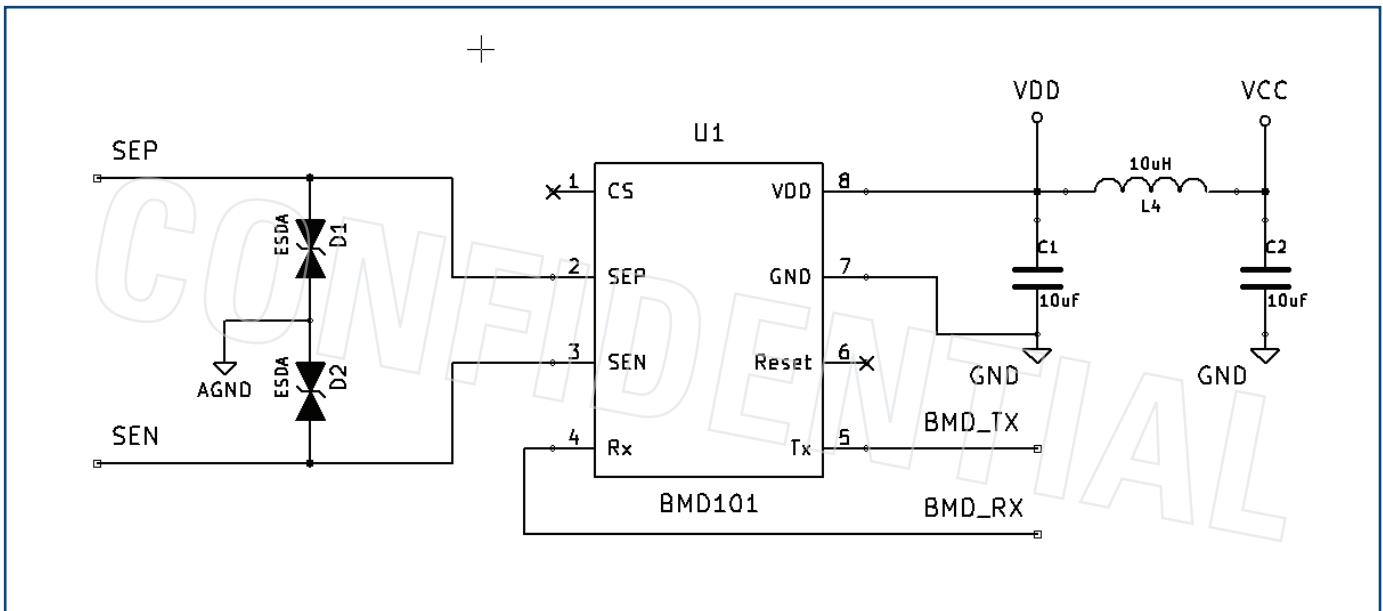

Figure 7 BMD101 Reference Design Schematic
- Pi Filter, as shown in Figure 7
Table 2 External Components on the Reference Design of Figure 7